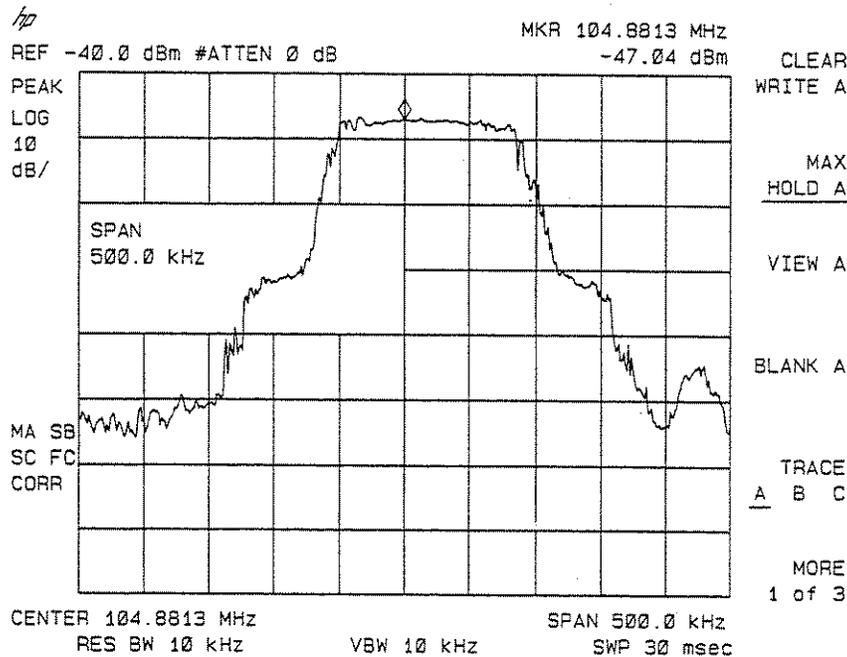

Figure 2-10. Viewing an Unstable Signal Using Max Hold A
5. To measure the excursion of the signal, press **TRACE**, **MAX HOLD A**. As the signal varies, maximum hold maintains the maximum responses of the input signal, as shown in Figure 2-10.